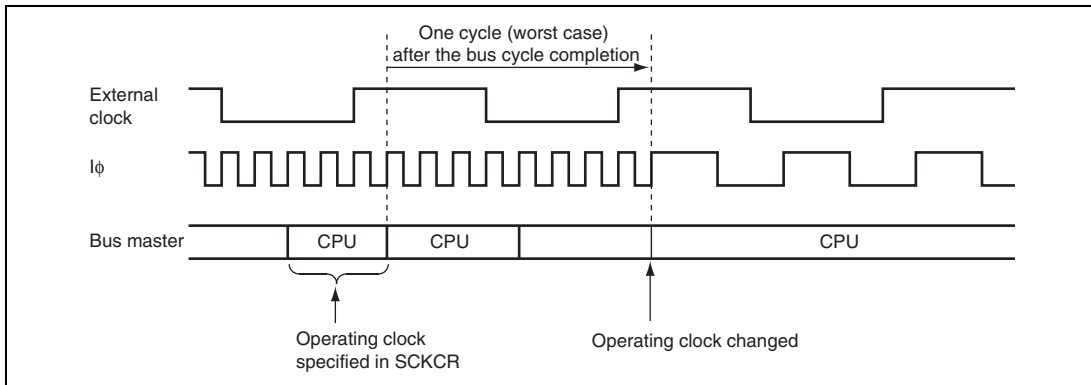

Figure 26.6 Clock Modification Timing
5. Figure 26.6 shows the clock modification timing. After a value is written to SCKCR, this LSI waits for the current bus cycle to complete. After the current bus cycle completes, each clock frequency will be modified within one cycle (worst case) of the external input clock ϕ .